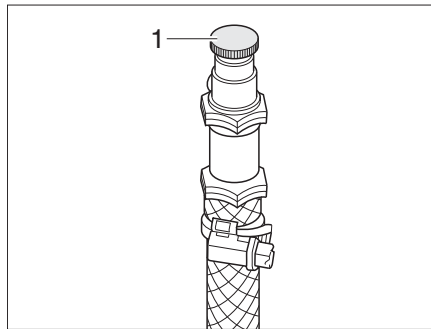

Fig. 309 Bleeding valve of hot-water heater
- Open bleeding valve (Fig. 309,1) and leave open until no more air escapes.